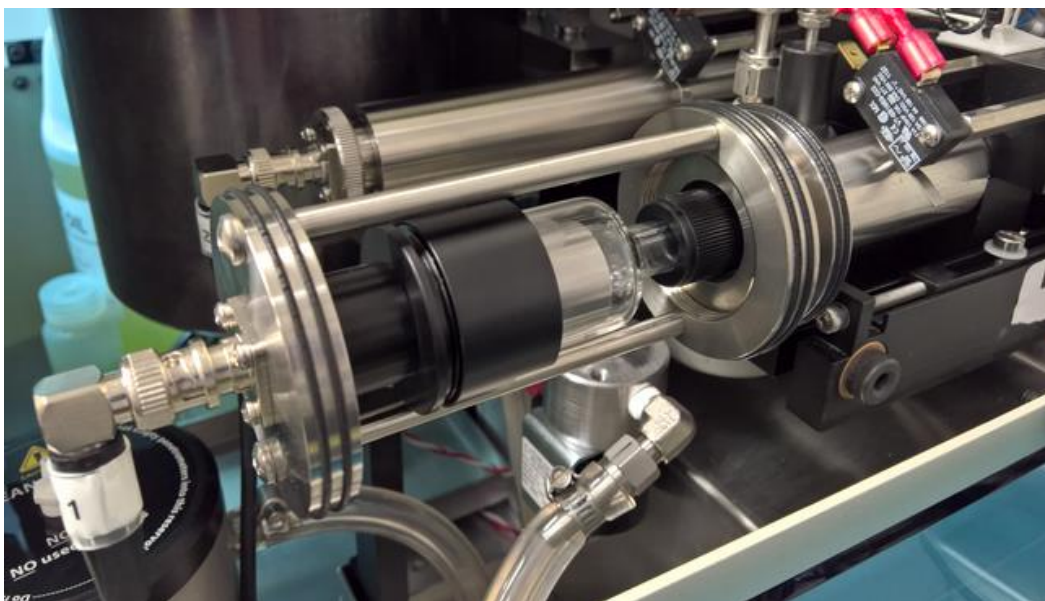

Figure 14. Macro cell in low pressure station
- Screw the macro cell retainer onto the macro cell interlock, making sure that the spring goes over the post of the macro cell electrode as shown in Figure 14.